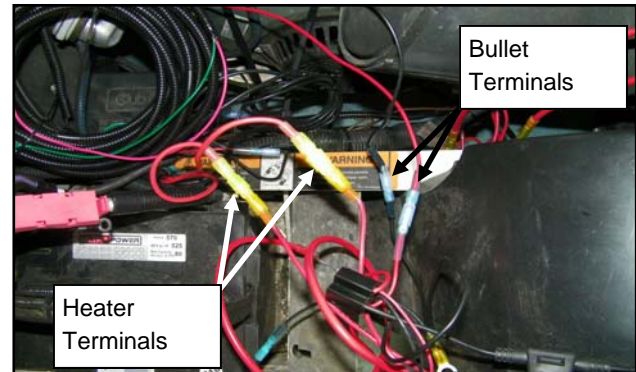

Fig. 3.7 (Connect Heaters & Relay Harness)
- 3.7** In the engine compartment, reconnect the bullet terminals on the red/black harness that were disconnected in step 3.2 with the corresponding wires on the relay holders. Fig. 3.7.